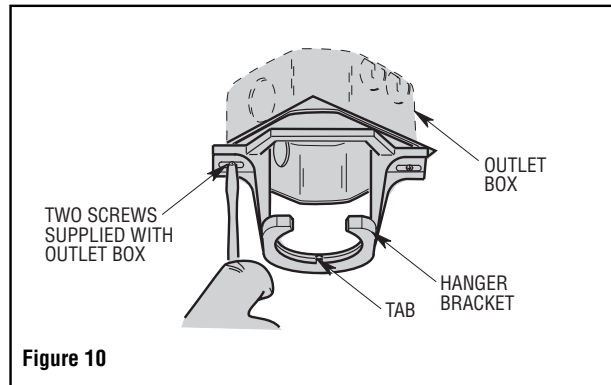
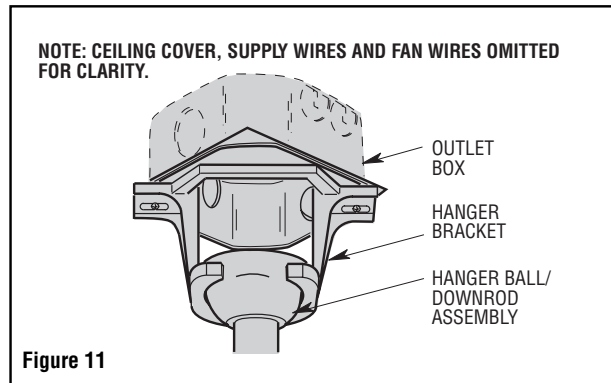

Figure 10
Figure 11
2. Securely attach the hanger bracket to the outlet box using the two screws supplied with the outlet box (Figure 10).
3. Carefully lift the fan and seat the hanger ball/downrod assembly on the hanger bracket that was just attached to the outlet box (Figure 11). Be sure the groove in the ball is lined up with the tab on the hanger bracket (Figure 10).
4. Screw the two 1-1/4" threaded studs (supplied) into the tapped holes in the hanger bracket (Figure 11).